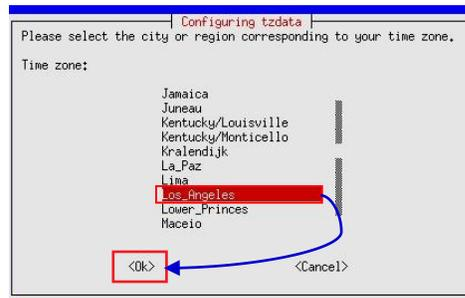

Figure 31 Time Zone – configure country/region.
6. Use **[↑]** and **[↓]** to highlight the desired Country (as shown in Figure 31).